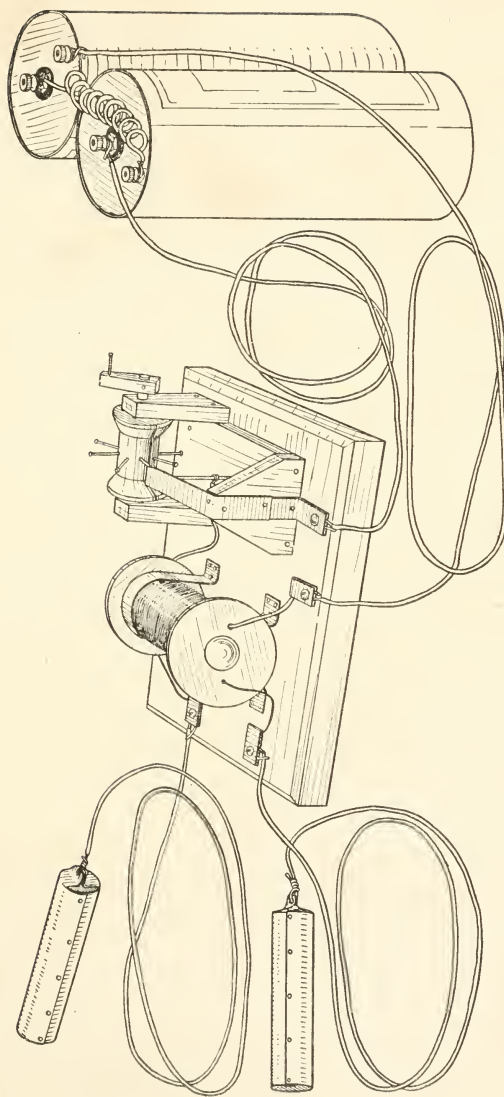
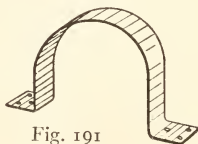
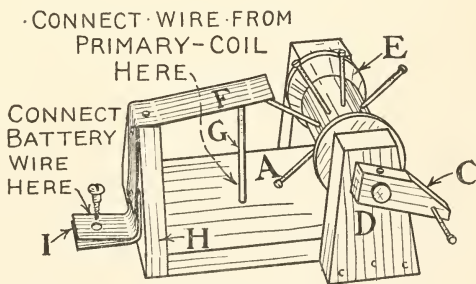

FIG. 187. — Detail of the Toy Shocking Machine.
Fig. 191
FIG. 194. — Interrupter for Shocking-Coil.
**A Toy Shocking Machine.** The little shocking machine shown in Fig. 187 is a harmless toy with which you can have an endless amount of fun when entertaining friends. The shock it produces is not severe, but strong enough to make your friend's arm and wrist muscles twitch, and perhaps cause him to dance. Large shocking coils contract the muscles to such an extent that it is impossible to let
Cut a base block 5 inches wide and 7 inches long, bevel the top edges to give it a trim appearance, and mount the induction-coil to one side of the center (Fig. 187), strapping it in place by means of two tin straps similar to that shown in Fig. 191, cut from a tin can.
The projecting ends of the primary-coil connect with the battery, while the two ends of the secondary-coil connect with the handles. Make three binding-post plates out of folded pieces of tin, similar to plates *B* and *C*, in Fig. 182. Tack two of these to the end of the base and connect the secondary-coil wires to them (Fig. 187), and tack the third near one end of the induction-coil and connect one primary-coil wire to it (Fig. 187).
**An Interrupter** must be inserted between the battery and one of the wires leading to the primary-coil of the induction-coil. There are several ways to construct an interrupter, but the scheme which I have invented for the model of this shocking-machine (Fig. 187) serves the purpose nicely, and is a neat appearing little piece of apparatus. This interrupter is easily constructed as you will see by the working details shown in Figs. 194 to 198.
Cut the base block *A*  $1\frac{1}{2}$  inches wide and  $2\frac{1}{2}$  inches long. Make the shaft *B*  $2\frac{3}{4}$  inches long and of a diameter equal to the hole in a thread spool; and prepare the crank *C* to fit on the end, and drive a brad into it for a handle. Fasten the crank to the shaft with glue, or by driving a small brad through the two. The shaft supports *D* should be prepared as shown in Fig. 196,  $1\frac{1}{4}$  inches wide across the bottom,  $\frac{5}{8}$  inch wide at the top, and  $1\frac{3}{4}$  inches high. Bore a hole through each, a little below the top, and large enough so the shaft will turn easily, and fasten these supports with brads to the sides of base *A*. Drive eight brads into a thread spool, spacing them equidistant from one another, and mount this spool upon the shaft (*E*, Fig. 194), first slipping the shaft through one support, then through the spool, and then through the other support. Drive the spool brads a trifle into the shaft to hold the spool in position.
The projecting arm *F* (Fig. 194) is a strip of tin cut from a can, and must be long enough so each nail-head will strike its end when spool *E* is revolved. Drive a nail into base *A*, at *G*, and, after bending strip *F* as shown in Fig. 198, fasten it with brads upon the top of an upright made similar to *H* (Fig. 197), and nail this upright to the end of base *A*. The upper end of strip *F* must be bent so it will bear down upon the head of nail *G*.
This completes the interrupter. Mount it beside the induction-coil upon the base block, and connect it with the battery and the induction-coil, as shown in Fig. 187. Connect the battery cells in series. Two cells will be enough.